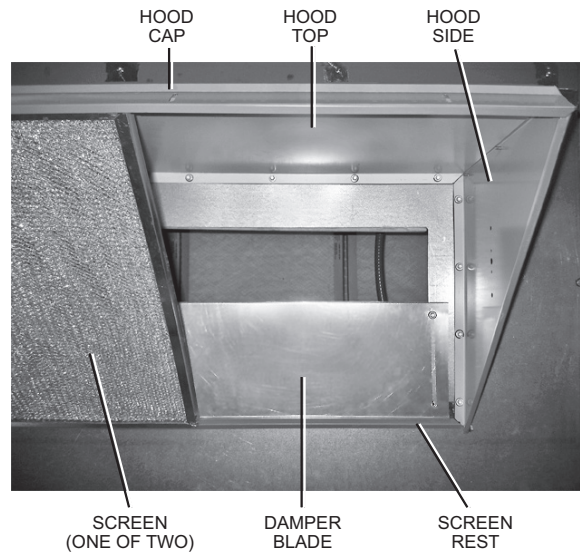
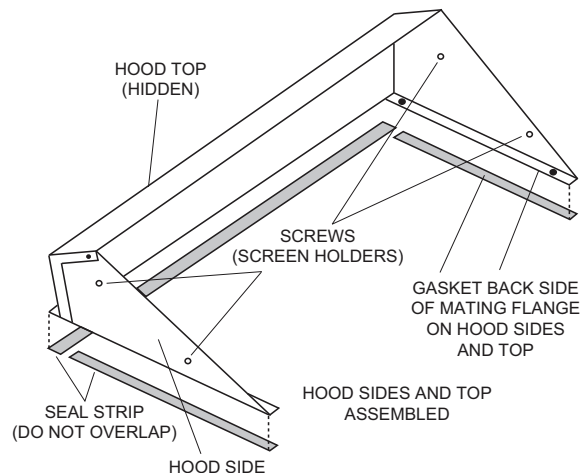

Fig. 2 - 011A00 Installed — One Screen Removed
Fig. 3 - Outdoor-Air Hood Details
3. Remove hood sides and top, (Fig.2 and Fig. 3), screen, and damper panel with damper blade attached from accessory package.
4. Attach the two (2) hood sides to the hood top with the screws provided.